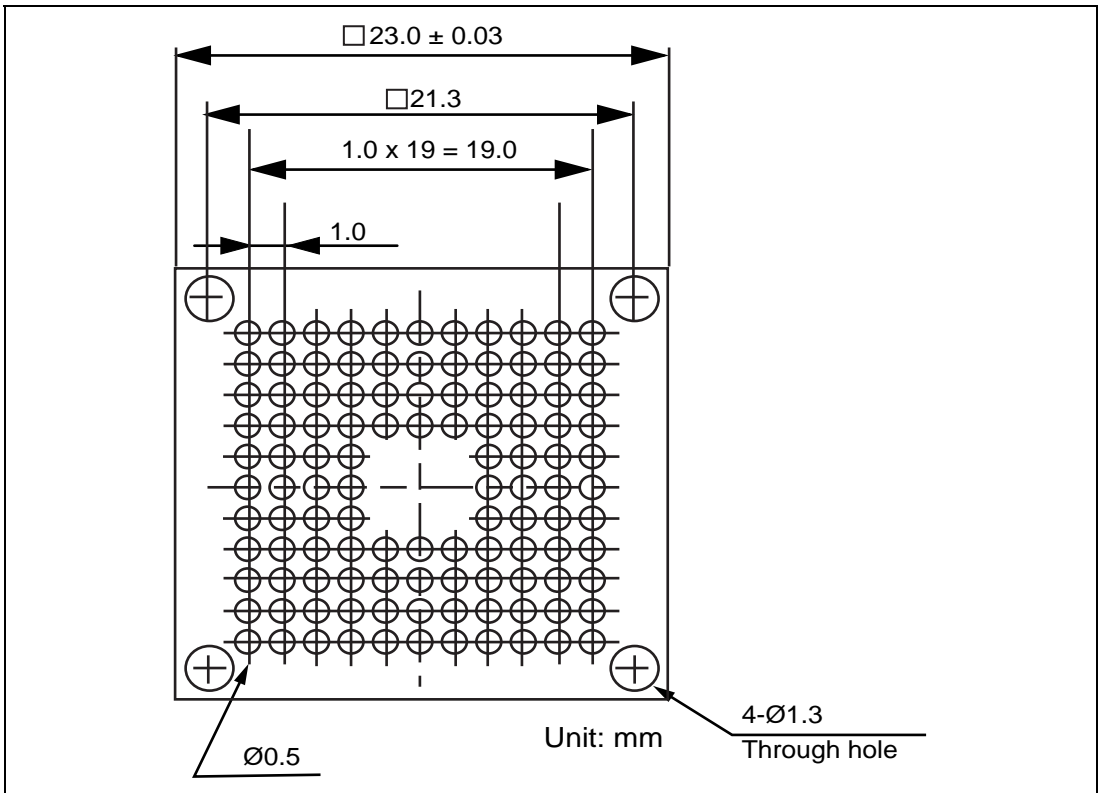
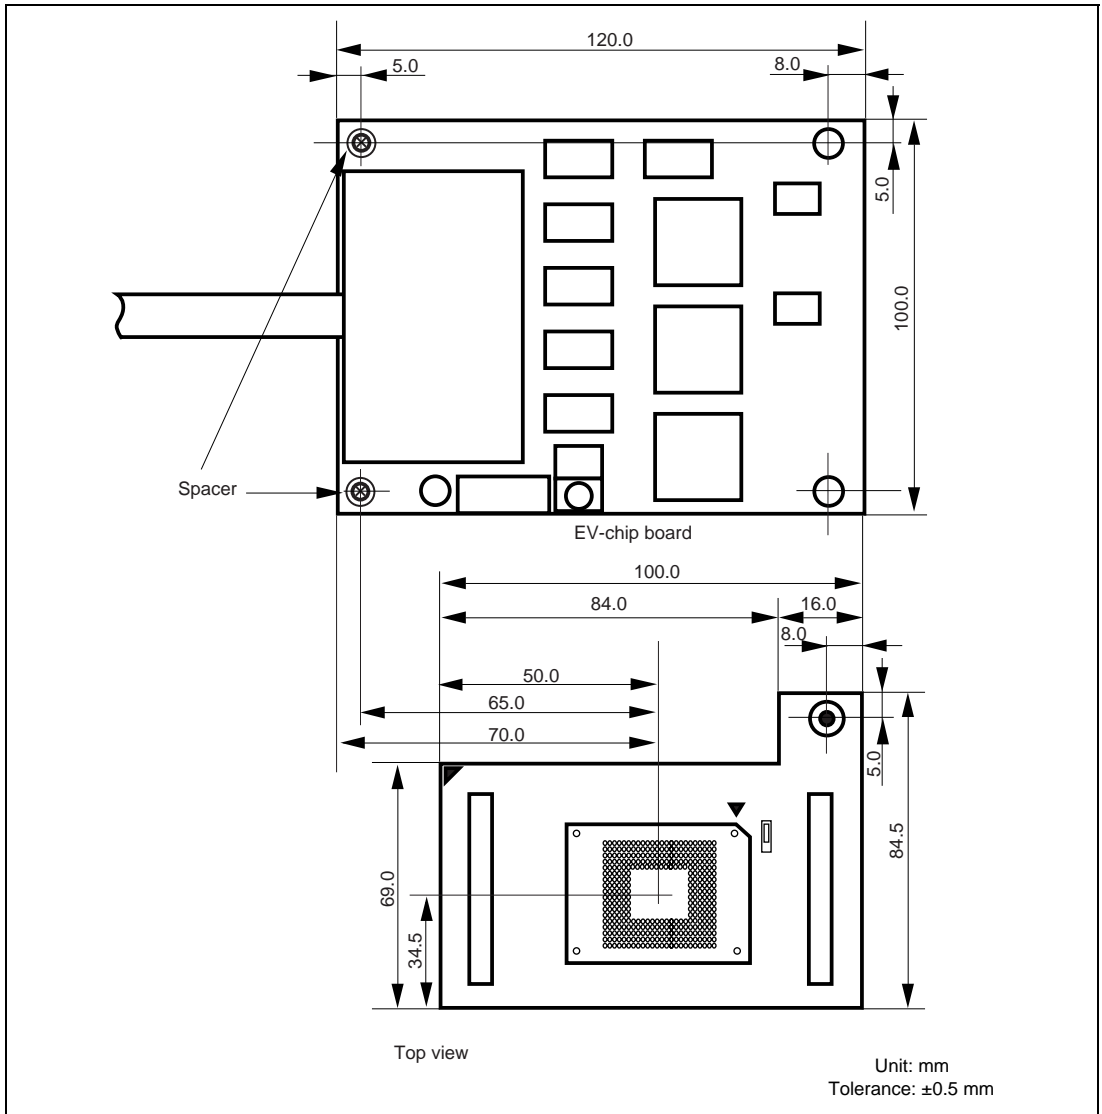
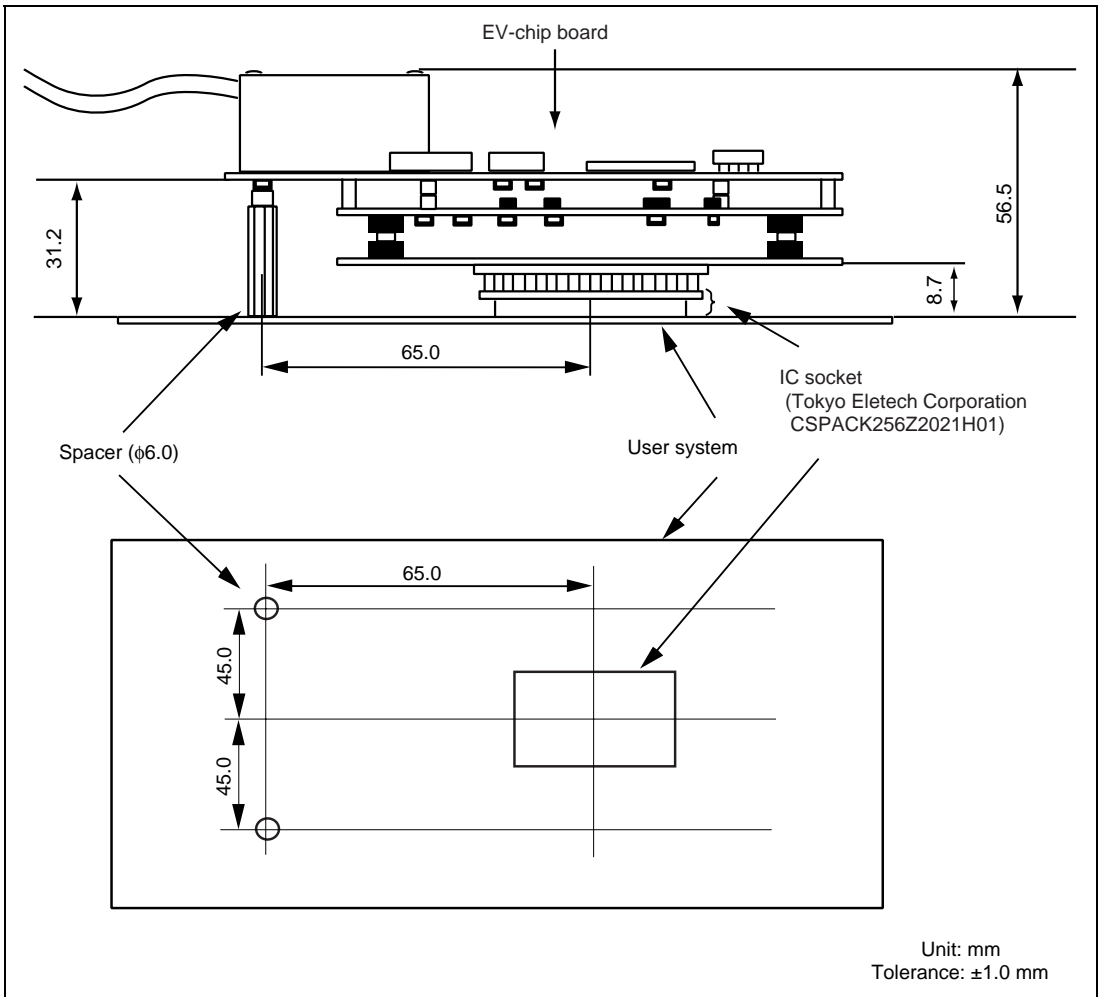

Figure 4 Recommended Dimensions for Mount Pad
Figure 5 Dimensions for EV-Chip Board and User System Interface Board
Figure 6 Resulting Dimensions after Connecting User System Interface Board
- (3) Install the provided guide pins into the holes for the guide pins on the user system. Check that the pads are correctly aligned with the IC socket.
(4) Notes on soldering the IC socket
- a) The IC socket is larger than the actual IC package; therefore, refer to figure 5 and figure 6 for the installation of other components.
Figure 4 shows the recommended dimensions for the mount pad (footprint) for the user system with an IC socket for an PRBG0272FA-A package (CSPACK256Z2021H01: manufactured by Tokyo Eletech Corporation). Note that the dimensions in figure 5 are somewhat different from those of the actual chip's mount pad.
The dimensions for the EV-chip board and the user system interface board are shown in figure 5.
The resulting dimensions, after connecting the user system interface board to the user system, are shown in figure 6.